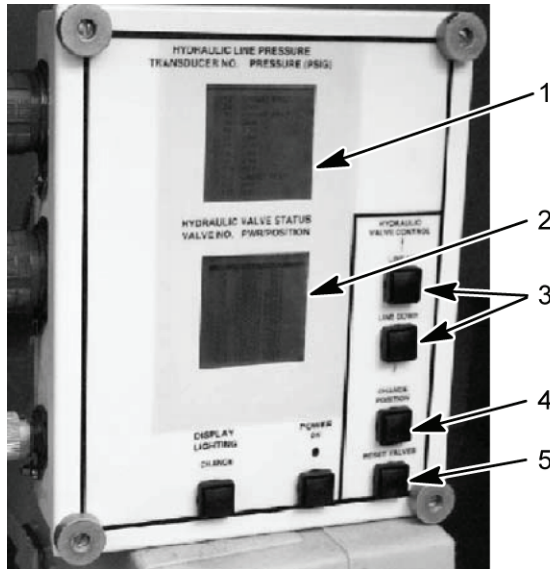

Figure 9. HDC Control Box
- Using LINE UP or LINE DOWN button (Figure 9, item 3), select V1 on the HDC display (Figure 9, item 2). Close V1 on the HDC display (Figure 9, item 2) by selecting the CHANGE POSITION button (Figure 9, item 4) on the HDC control box.
- Have assistant start engine and hold EJECTOR CONTROL lever in the FORWARD position. Read transducer T-2 hydraulic pressure on the HDC display (Figure 9, item 1).
- Reset all HDC solenoid valves by selecting the RESET VALVES button (Figure 9, item 5) on the HDC control box.